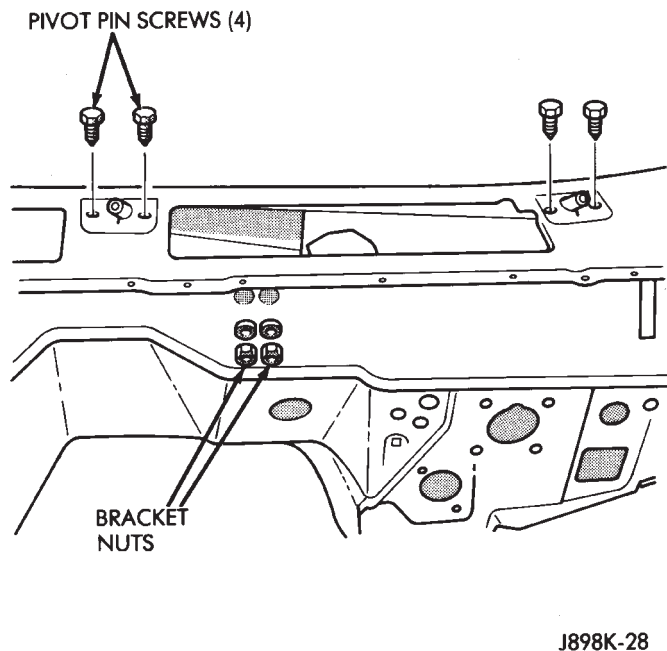

Fig. 2 Pivot Assembly Removal
(2) Remove cowl trim panel. Disconnect the washer hose. Remove the cowl mounting bracket attaching nuts (Fig. 2) and pivot pin attaching screws.